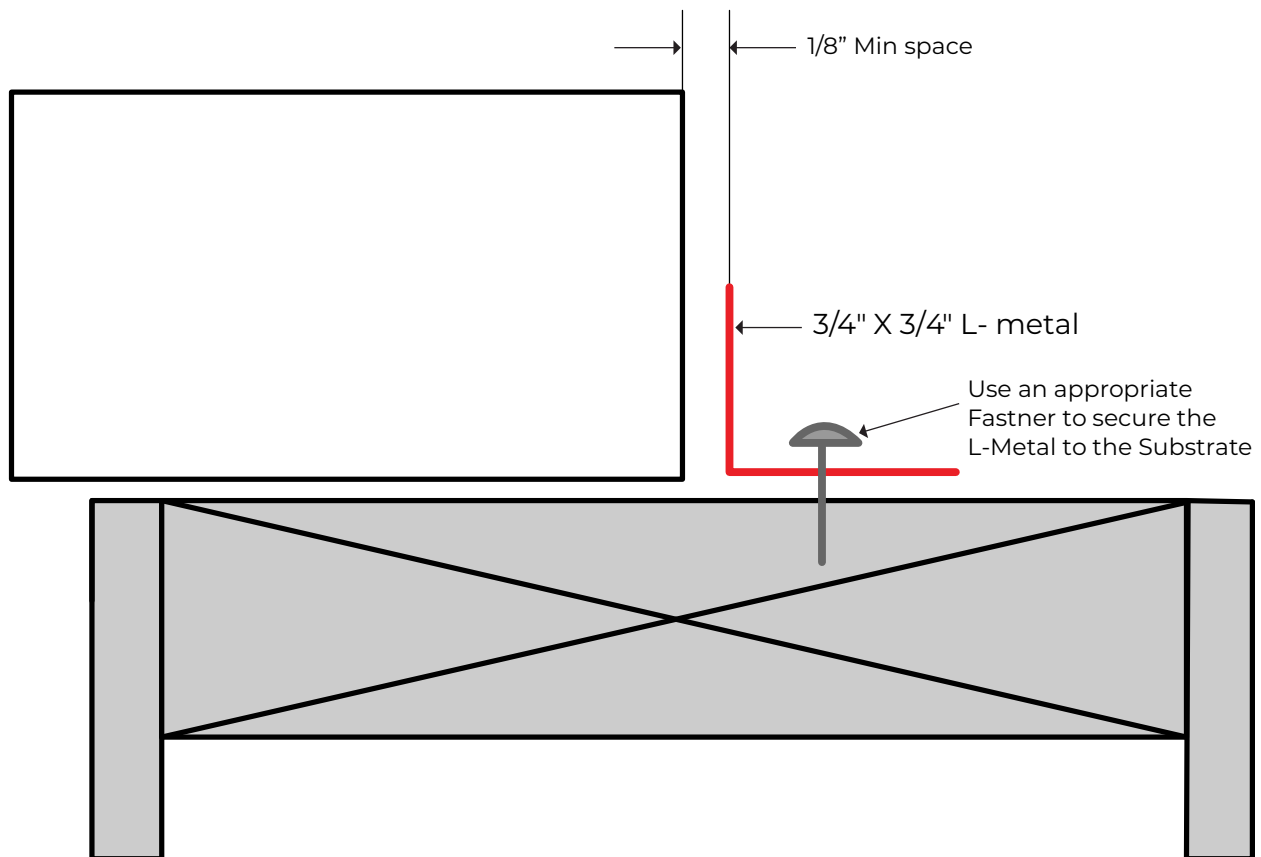

FIG 24
- Install 3/4" x 3/4" aluminum L-metal the full length of the sill as the raised leg of the liquid applied flashing pan. **[FIG 24]**